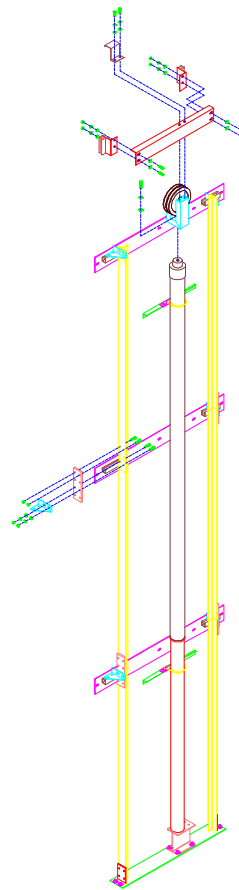

Figure 7
Figure 7 detail
11. Install the sheave and sheave guide assembly. The sheave is installed in a yoke, which is attached to the plunger with a  $\frac{3}{4}$ " bolt. Install the bolt loosely at this point. Install the guide beam to the yoke. Install the gibbs to the guide beam. Allow about  $\frac{1}{32}$ " clearance between the gibbs and the rails. After the gibbs are installed, tighten the  $\frac{3}{4}$ " bolt, making sure you keep the yoke parallel to the rails, so there is no binding in the gibbs. You may wish to leave the cable guard off until after the cables are installed. See Figure 7.